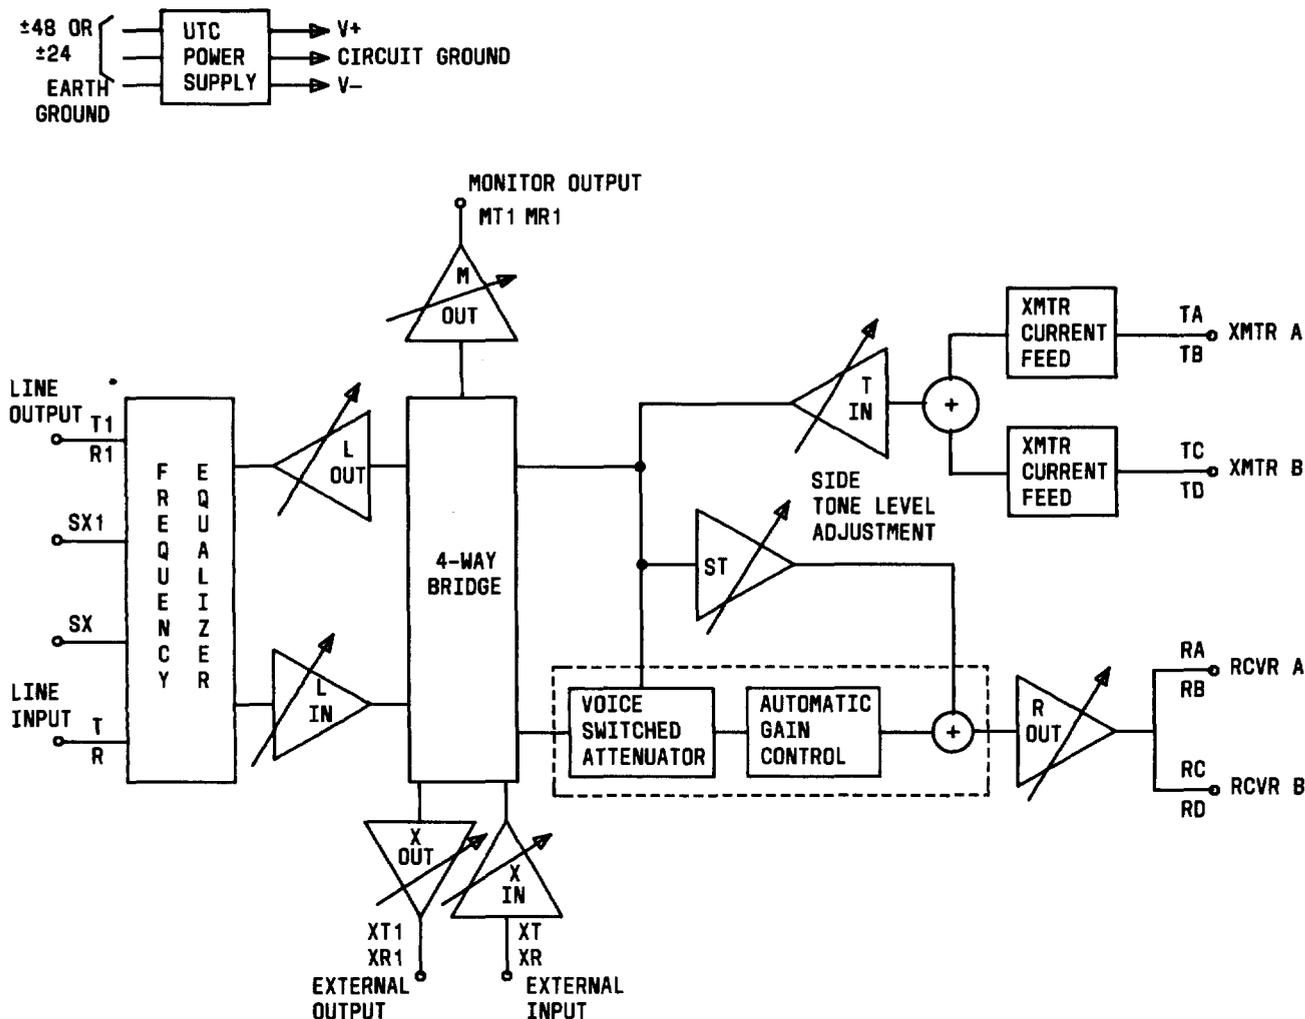

Fig. 5—Functional Block Diagram of the 4251-Type Network
- 3.01** A functional block diagram of the UTC is shown in Fig. 5. The designations shown in the amplifier symbols correspond to the gain